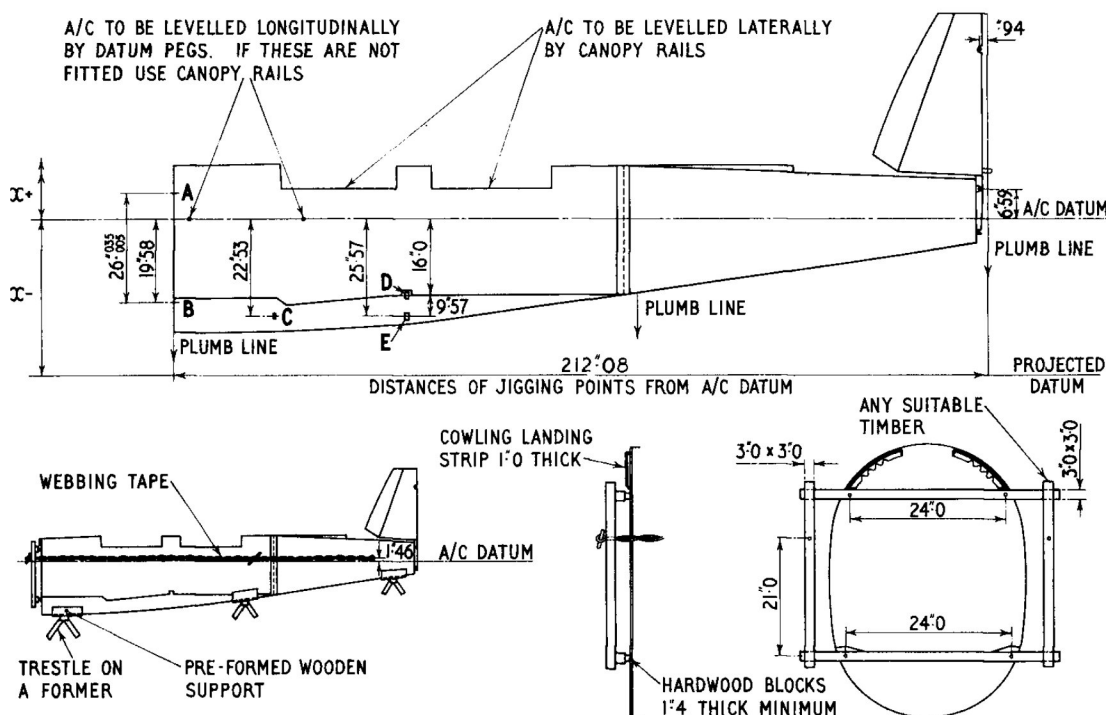

Fig. 1. General arrangement of repair
1. (1) Remove the damaged rear end by releasing attachment of joint strap securing front and rear fuselage.
(2) Set up the front fuselage on suitable trestles to maintain it in a level position. All trestles must be located beneath a former and use must be made of a pre-formed wooden support between the trestles and the fuselage to prevent concentration of the load at one point.
(3) Project a datum below the fuselage as shown in the illustration. This enables a cross check on the fuselage level by measuring the dimensions at the various joints on the structure.
(4) In the production of the fuselage components the rear end of the front portion has been designed as a close fit in the joint strap fitted at the front end of the rear fuselage. A jig must be assembled as shown in fig. 1.
(5) In some few cases it may be found that datum pegs have not been fitted. In such cases fore and aft and lateral levelling may be effected by use of a clinometer carried on a straight edge sup-
2. (1) With the fin fitted, offer up a fuselage rear end, Part No. R C1 FS 157, to its approximate position and check that it is vertical by measuring the distance of the plumb line from the top hinge position as shown in fig. 1. Make a symmetry check of the diagonal measurements from the underside of the rear bulkhead (Vol. 1).
(3) Check height of tailplane attachments from the projected datum and their distance from the firewall (fig. 1).